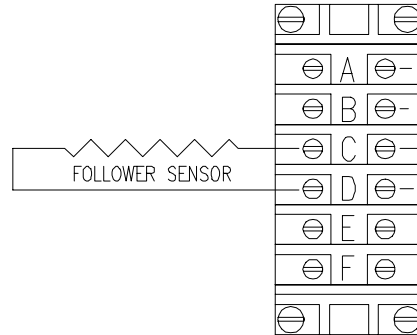

Fig. 9
5. Loosen the conduit locknut (120).
6. Remove the sensor (90) from the follower plate.
7. Loosen the cord grip (100), located under the junction box.
9. Disconnect the 2 sensor wires from the junction box. See Fig. 9.